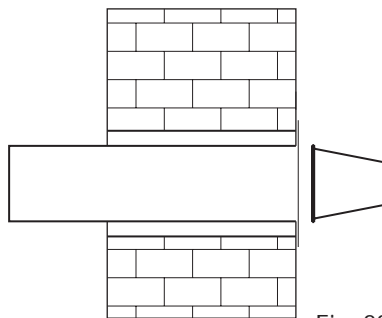

Fig. 22b
3.12 Installing a room thermostat (72) (fig. 22b)